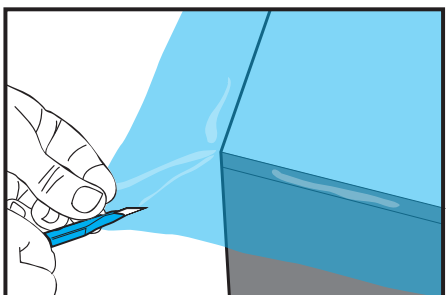

Figure 07
- › Diagonally cut the film starting from the corner of the table. (FIG. 07)